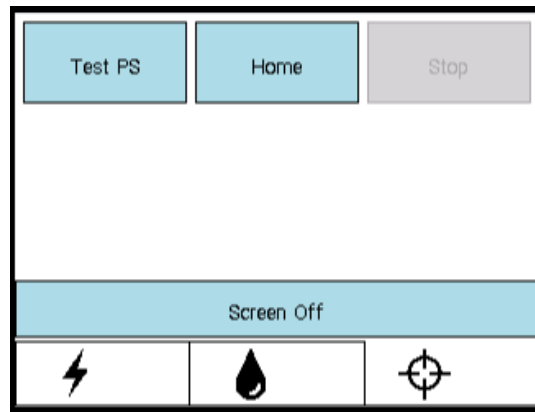
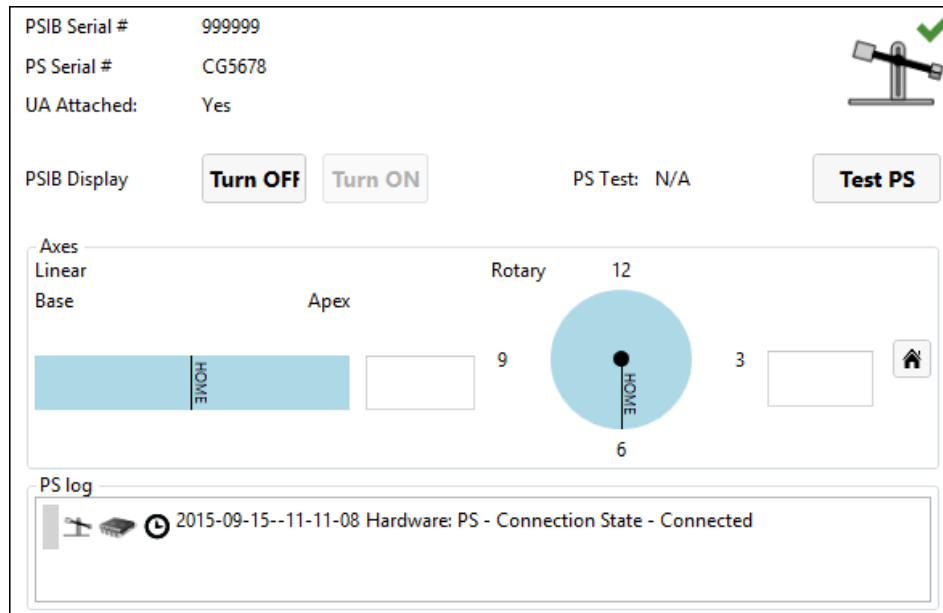

Figure 14: PSIB display - PS tab
Figure 15: PS information box in Setup workspace
- On the PSIB display, select the PS tab and click **Test PS** (Figure 14). The system will translate the PS forward and backward to test the continuity and functionality of the translation axis as well as home the PS in the translation axis. The system will also rotate the rotational axis clockwise and counter-clockwise to test the continuity and functionality of the rotational axis. (This can also be done from the TDC Setup workspace in the PS information box in the bottom-right quadrant Figure 15.)